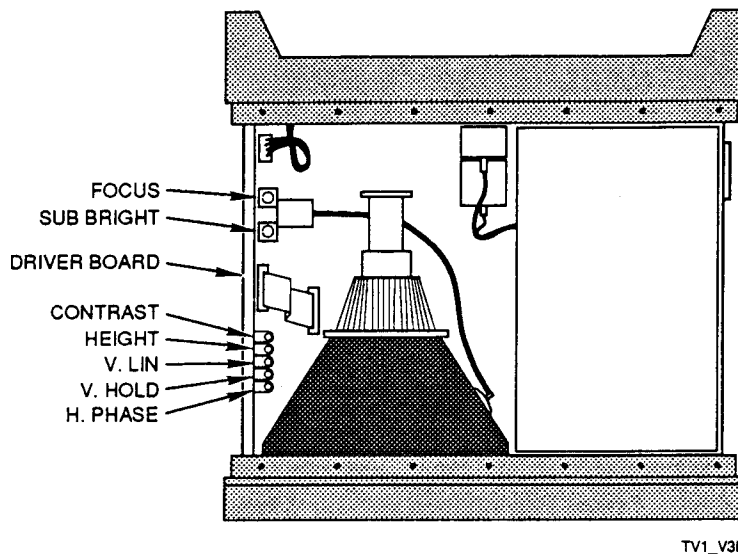

Figure 3-6. HP 53310A CRT Monitor Assembly Adjustment Locations
- 2 Refer to *Figure 3-6* for CRT adjustment locations.